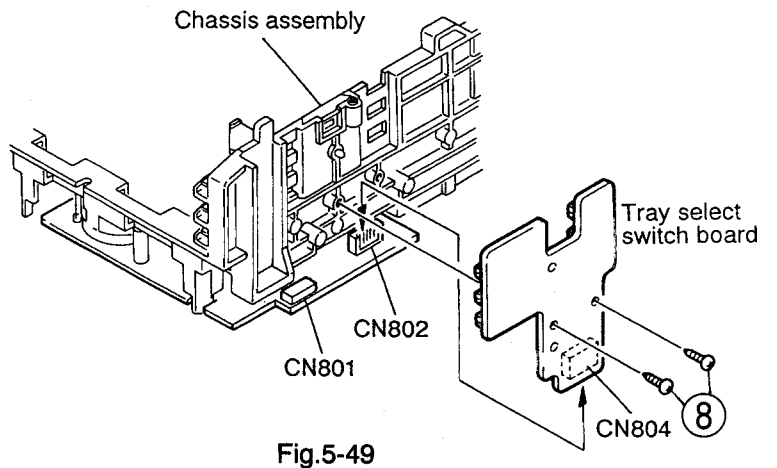

**Fig.5-48**
(See Figs. 5-48 and 5-49)
1. Absorb the four soldered positions "M" of the right and left motors with a soldering absorber (See Fig. 5-48).
2. Remove the two screws ⑦ retaining the actuator motor board (See Fig. 5-48).